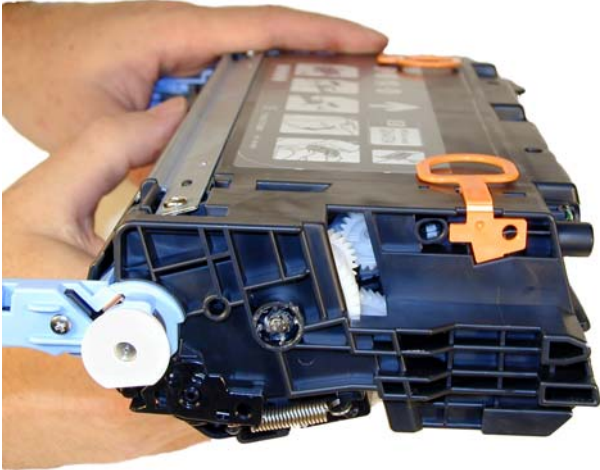

Figure 66
43) Install the shipping locks on each side of the cartridge. If the cartridge is to be used right away, they are not necessary, but if the cartridge might sit on a shelf for a while, they should be installed. They keep the developer roller from getting a flat spot, which will cause horizontal voids in the print. See **Figures 66 & 67**